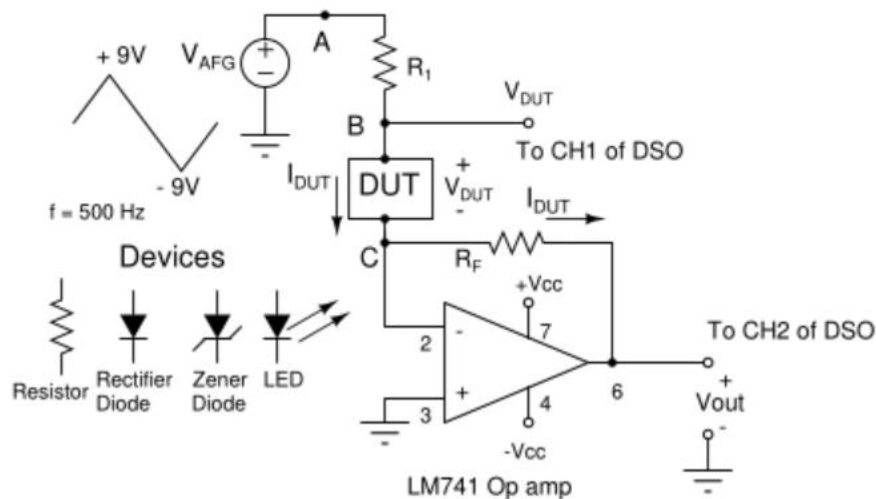

Fig. 4 LM741 Op amp based current-to-voltage converter for obtaining the V-I characteristics of diodes
The circuit diagram to be used for plotting the V-I characteristics of diodes is shown in Fig. 4. Following are the major blocks of the circuit.
In Fig. 4, the resistance R_1 is used as a current-limiting resistance. We shall choose $R_1 = 1$ k Ω to limit the maximum current to roughly 8 mA. Almost the entire current (I_{DUT}) will flow from the inverting input terminal through R_F to the V_{out} terminal of the Op amp. Hence, $V_{out} = -I_{DUT} R_F$. We shall choose $R_F = 1$ k Ω . Thus, a device current of 1 mA will make $V_{out} = -1$ V.
- Wire the current-to-voltage converter circuit shown in Fig.4. Note that with reference to Fig.4, $I_{DUT} = I_{Res}$; $V_{DUT} = V_{Res}$.
- d) Observe the XY plot of the given IN4007 Rectifier diode. With reference to Fig.4, the voltage across the diode (V_{DUT}) is the X waveform (CH1) and the current through the diode (I_{DUT}) is the Y waveform (CH2).